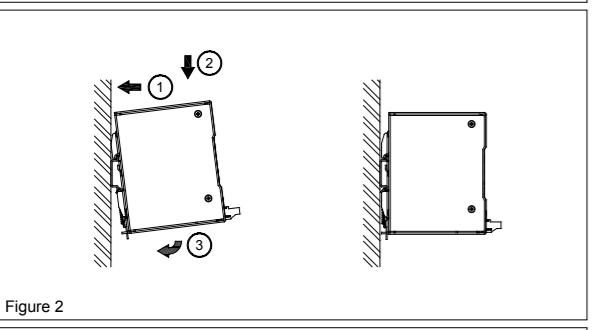

Figure 2
3. Mounting (Fig. 2)
- Snap on the DIN rail as shown in Fig. 2: